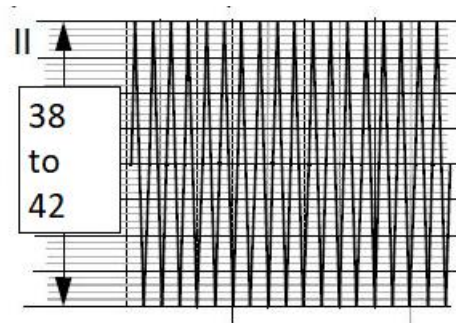

Figure 16
5. Locate the event created and confirm the printed signal amplitude is 38 mm to 42 mm, peak-to-peak, as shown in the figure 16 below.